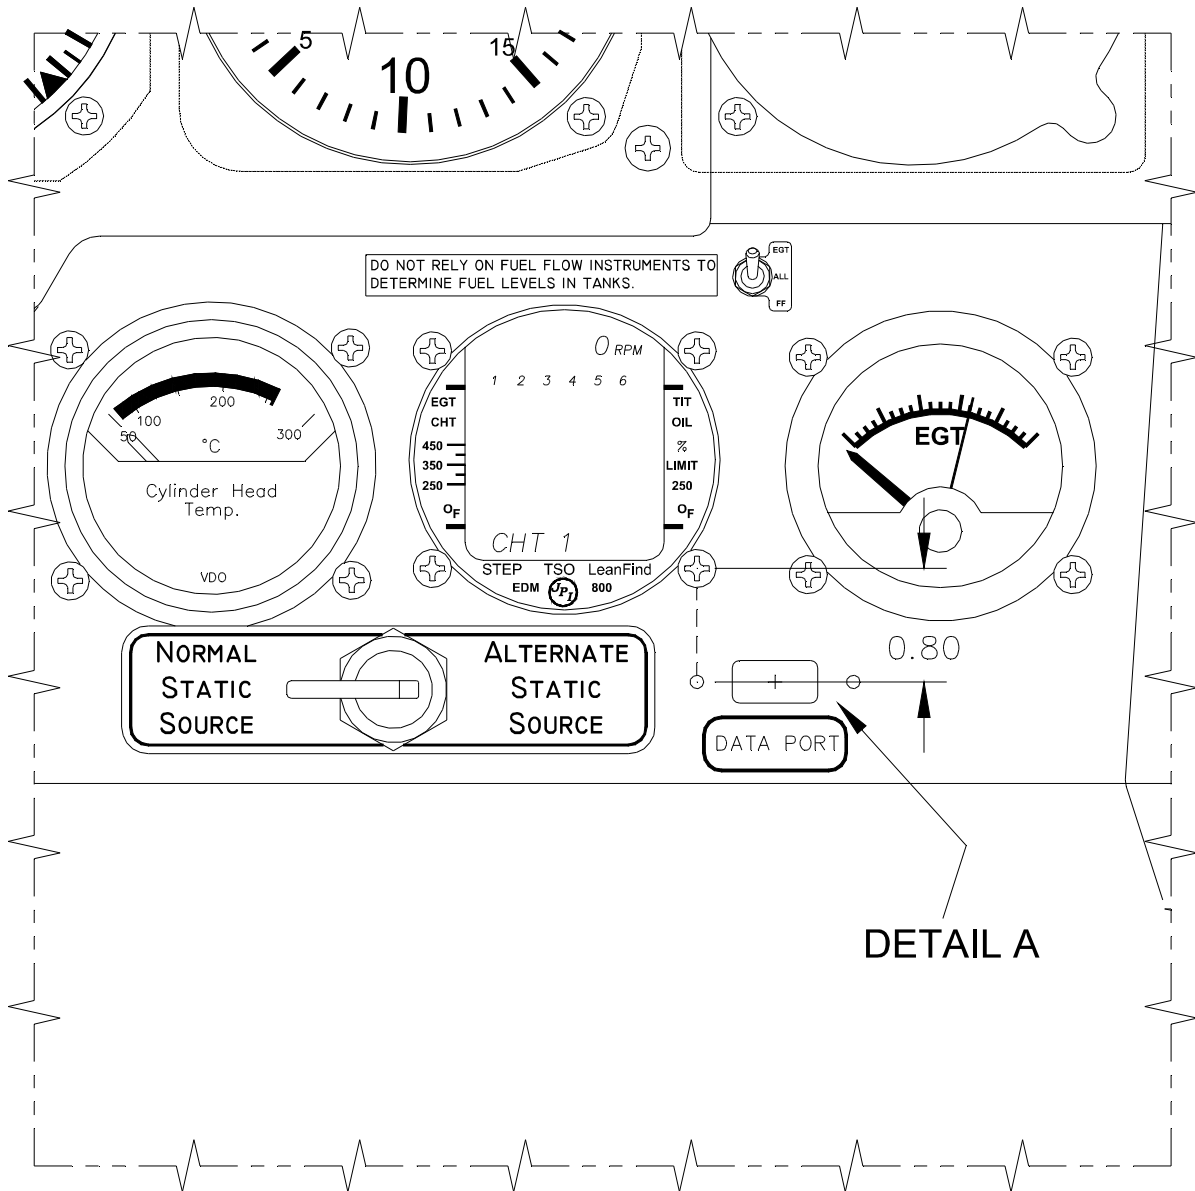

Figure 4 - Location of panel mounted USB port
2.1. Two locations for the USB port are allowed and are given in Figure 4 & Figure 5. Review the existing installation configuration of the aircraft cockpit before proceeding. The location shown in Figure 5 for the USB port may be deviated +/- 1.0" laterally from the location shown. The cut out details are provided in Figure 6. The location as described by Figure 5 will not interfere with the movement of the control column. Figure 4 is viewed looking straight at the instrument faces. Figure 5 is viewed looking at the instrument panel in a horizontal plane.
2.3. Locally fabricate a placard stating "DATA PORT" and fit immediately adjacent to the USB connector as shown in Figure 4 & Figure 5, subject to data port location selected.